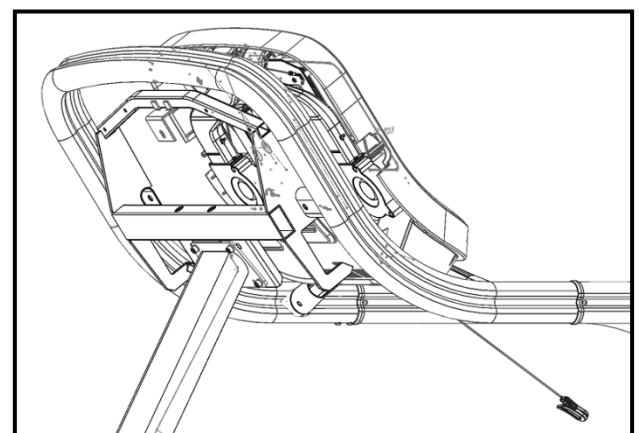

Fig. 15
- Hover the top half of the display (Fig. 15) over the console frame.